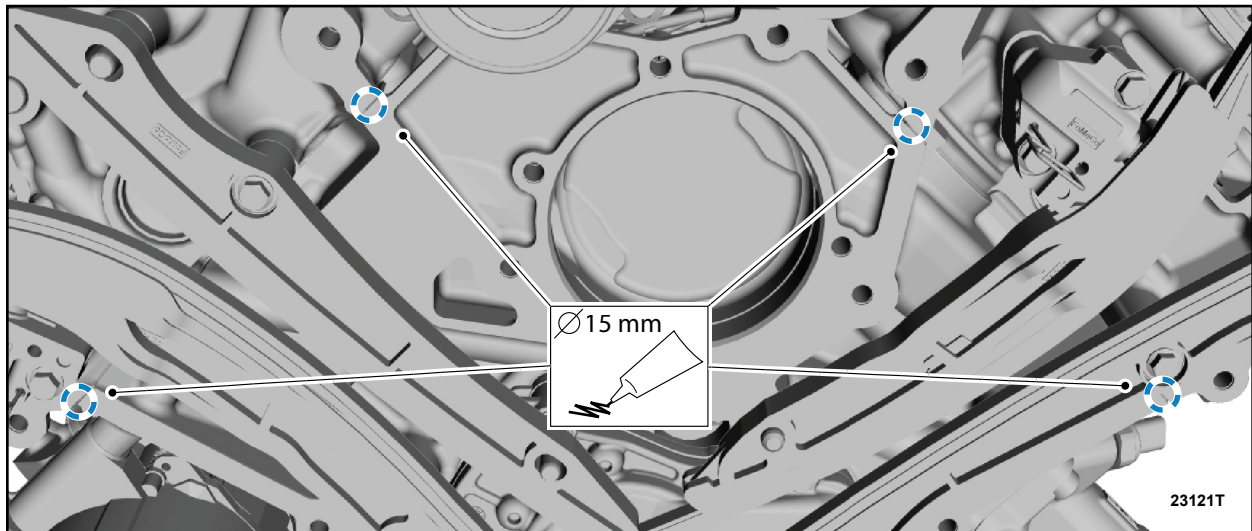

FIGURE 40
23. Using Motorcraft® Silicone Gasket and Sealant / TA-30 (WSE-M4G323-A4) apply 0.59 in (15 mm) diameter drops of silicone gasket and sealant to the cylinder head-to-cylinder block joints. See Figure 40.